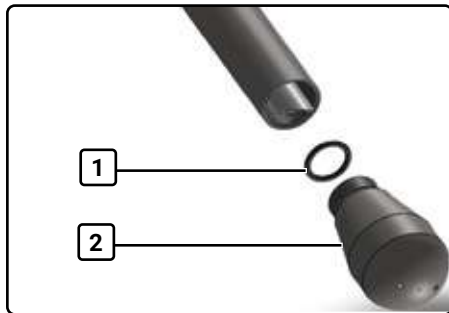

Fig. 10 Steam wand nozzle, removed
2. Unscrew the nozzle (2, Fig. 10) of the steam wand by hand and place it to the side.
4. Screw the nozzle and gasket (1, Fig. 10) back on.